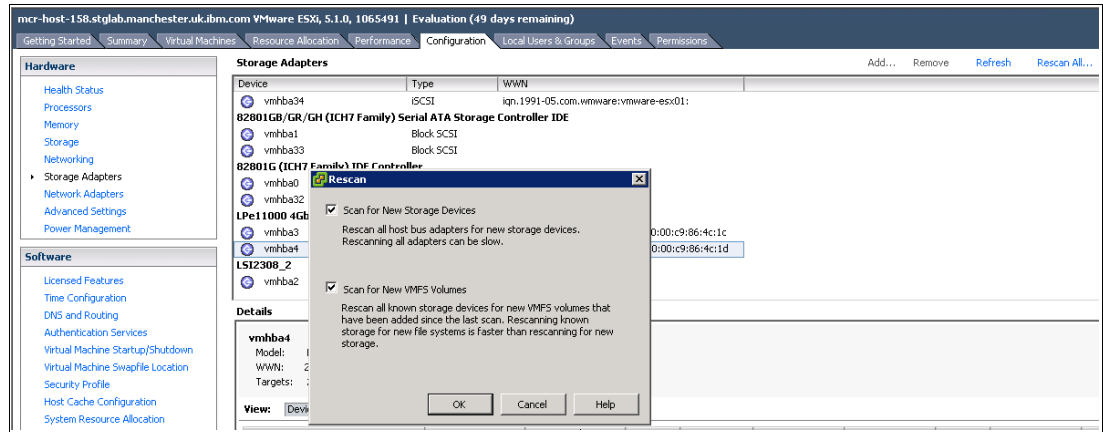

Figure 5-70 Rescan
- Click **Rescan All...** in the upper right corner and click **OK** in the resulting pop-up window, as shown in Figure 5-70. This scans for new storage devices.